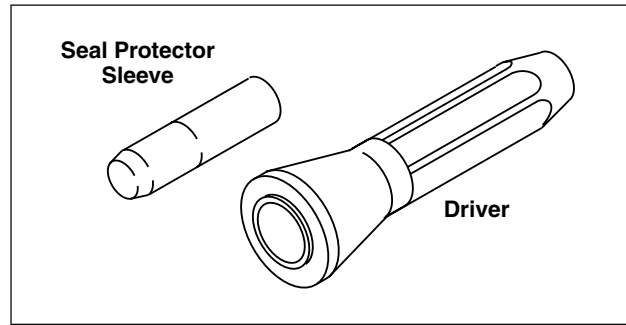

Figure 7-38. Main Drive Gear Seal Installer (Part No. HD-41405)
14. If the main drive gear oil seal was not installed with the needle bearings (or if a faulty seal is discovered with the main drive gear installed in the transmission case), an alternative method is provided using the MAIN DRIVE GEAR SEAL INSTALLER, HD-41405. See Figure 7-38.